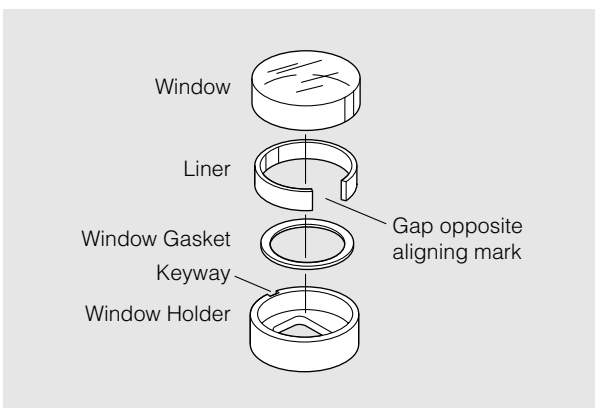

Figure 2-1. Assembling Window Components
- a. Place a window gasket (see Figure 2-1) in the window holder. (Use gaskets only a few times, as they become bent or otherwise damaged with repeated use.)